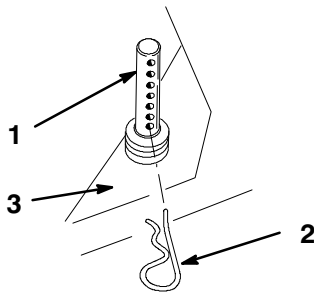

Figure 23
2. Lifting slightly on the deck handles, remove hairpin cottes from the height-of-cut posts and separate mower from carrier frame (Fig. 23).